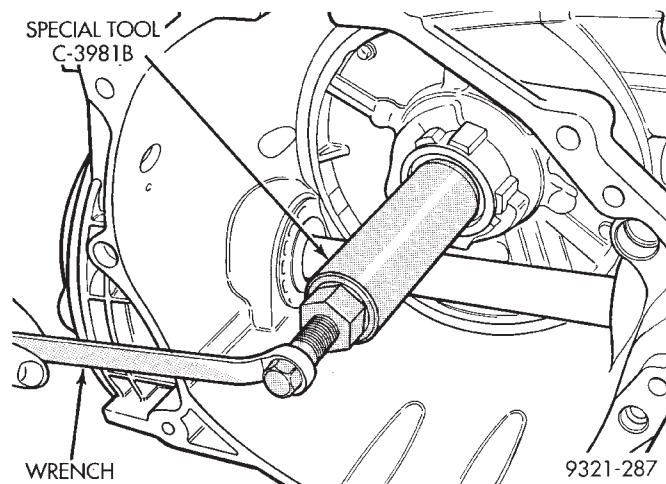

Fig. 55 Oil Seal Removal
- (1) Remove the transaxle from the vehicle.
- (2) Remove the torque converter from the transaxle bellhousing.
- (3) Use special tool C-3981B to remove oil pump seal (Fig. 55).